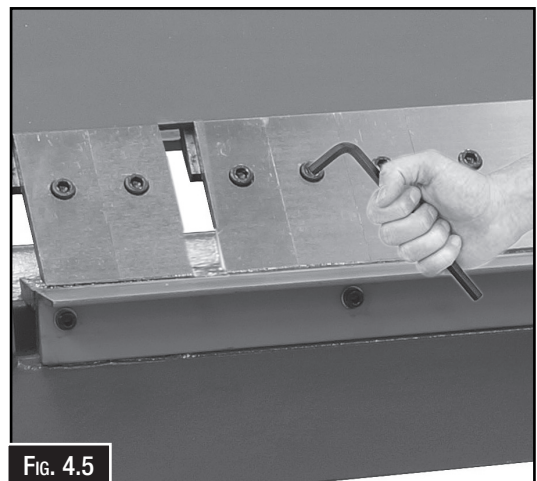

FIG. 4.5
1. On the fingers that need to be removed, loosen the cap screw. (Fig. 4.5)